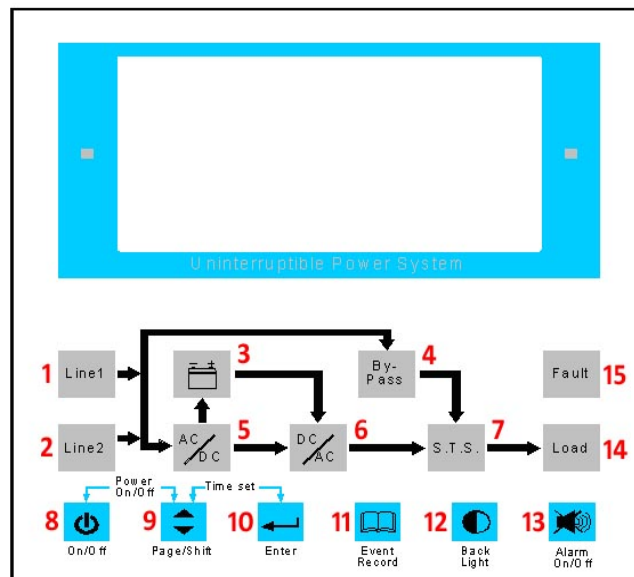

Figure 3 : Front Panel
5. Then press 「8. On/Off」 and 「9. Page/Shift」 buttons (see Figure 3) together and release after you hear a beep to turn on the UPS.
6. If the UPS is fault, 「15. Fault」 indicator (see Figure 3) will light and alarm continuously. Please immediately contact the dealer from whom you purchased the UPS.
7. If the UPS is normal, then press 「8. On/Off」 and 「9. Page/Shift」 buttons (see Figure 3) together and release after you hear a beep to turn OFF the UPS.